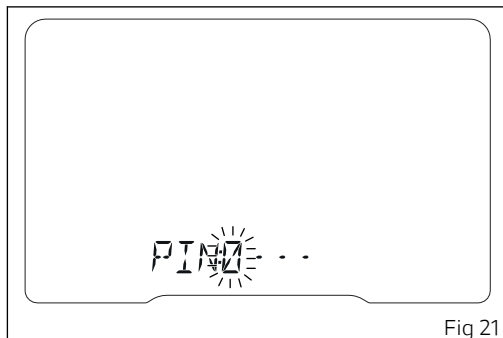

Fig 21
- if the PIN CODE function is active, the PIN CODE function page (Fig 21) is displayed, allowing the rider to enter the override code (see "Restoring motorcycle operation via the PIN CODE" page 228).